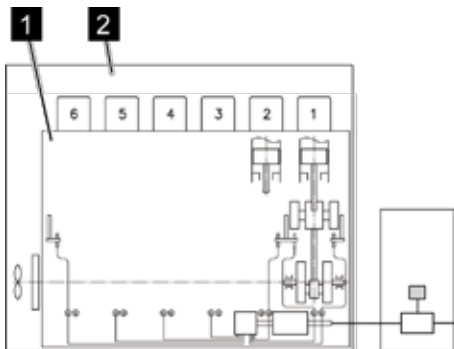

Fig. 19: Danger zones
- n Inside the engine (Fig. 19/1)
- n Inside the engine room (Fig. 19/2)